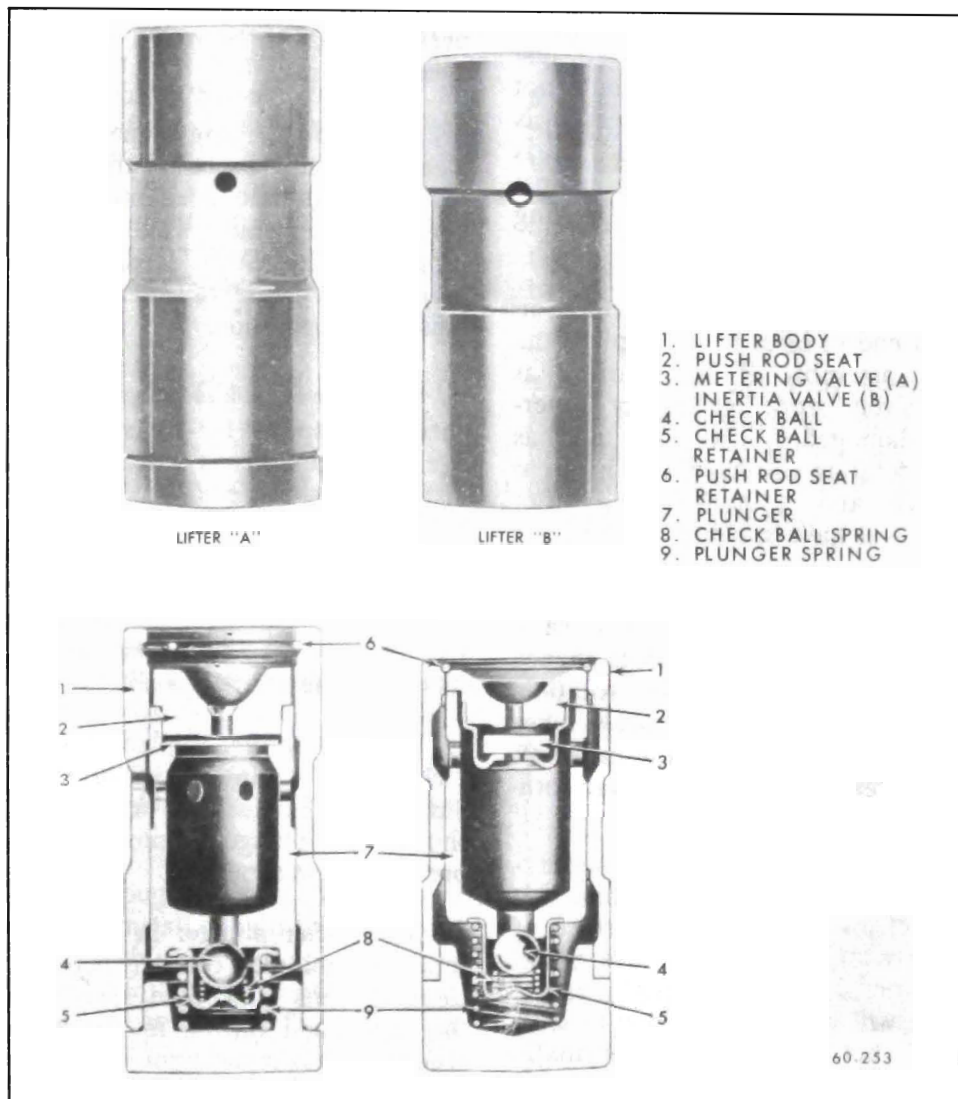

Figure 60-107 - Hydraulic Valve Lifter Parts
**NOTE:** Two types of hydraulic lifters are used. Both types of lifters operate on the same principle and are serviced basically in the same manner. The complete lifter assemblies are interchangeable but parts from one lifter are not interchangeable with another. Both lifters are easily identified by the outside configuration of the lifter body. For purposes of identification we refer to them as lifter "A" and lifter "B" See Figure 60-107.
9. Remove the push rod seat and metering valve (lifter "A") or the inertia valve assembly (lifter "B"). See Figure 60-107.
spring, ball retainer, spring, and body over the plunger. See parts in Figure 60-107.